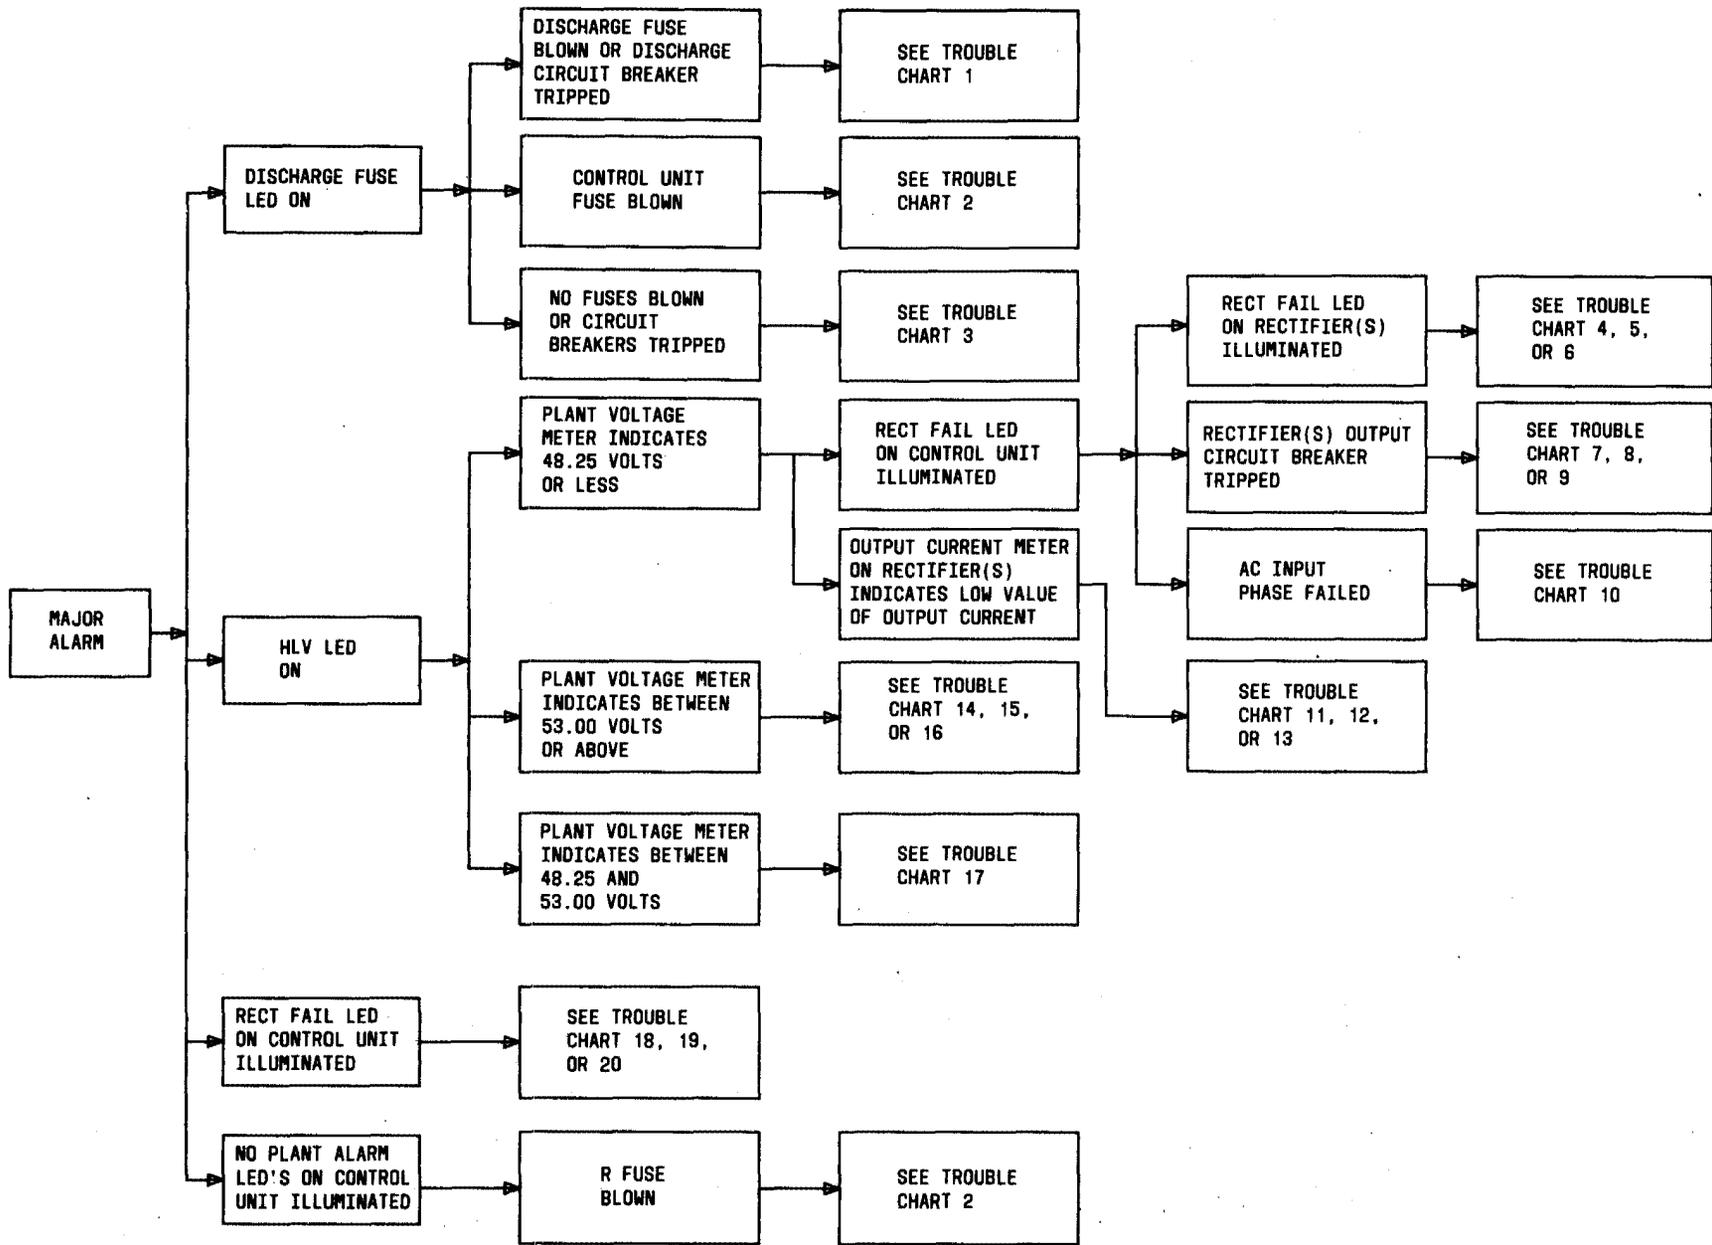

Fig. 13—Plant Trouble Flowchart—Major Alarm
8.02 To assist in locating the correct trouble chart, when an alarm has been given, the trouble flowcharts of Fig. 13 and 14 are provided. In general, equipment should be visually inspected for faulty connections, shorts, broken wires, and burned components. It is suggested that the probable causes of troubles listed in the trouble charts be checked in the order given. If the trouble cannot be located and corrected with the assistance of the trouble charts, then refer to the proper schematic diagrams and circuit descriptions for further information (see paragraph 1.07). After a repair has been made, the equipment repaired should be verified to be operating properly by following the appropriate test procedure in Part 5.